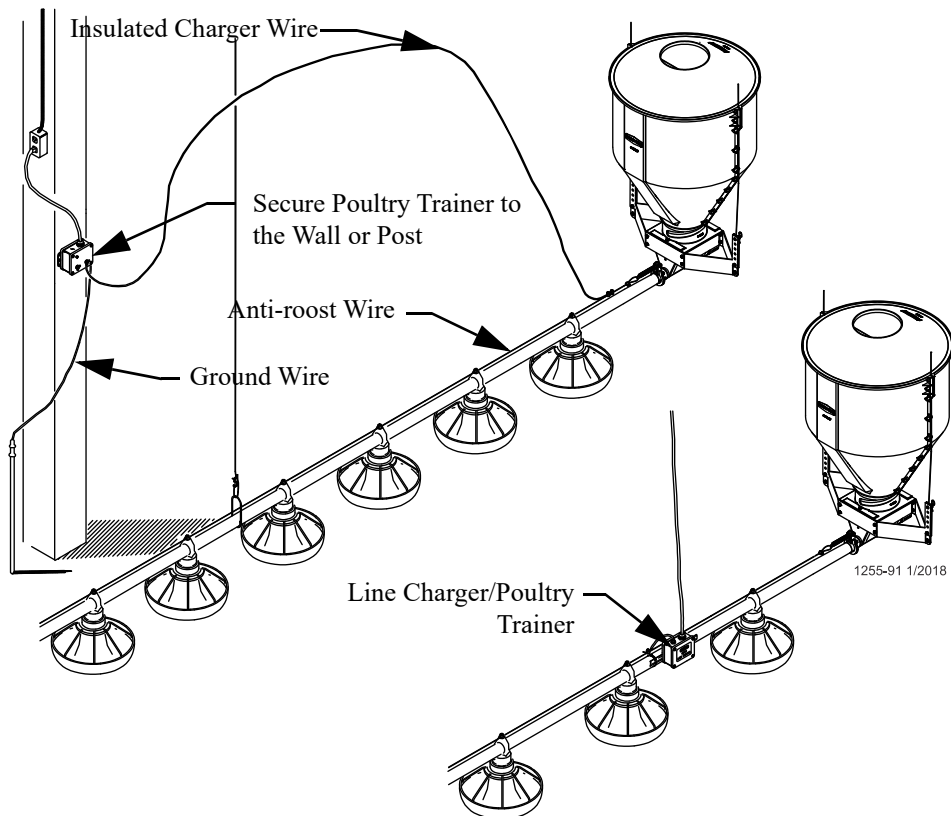

Figure 53.Poultry Trainer Installation
15. Install the Poultry Trainer or Line Charger, as shown in **Figure 53**. or **Figure 54**..
The Poultry Trainer is used to power all Anti-Roost lines in a house. See **Figure 53**.